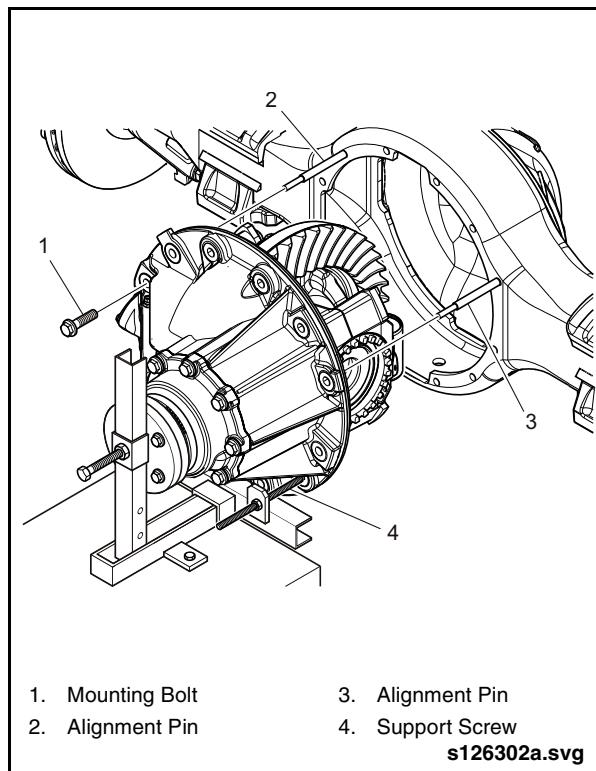

Fig. 2-42: Differential Carrier Removal
2. Remove two opposing mounting bolts and replace with Alignment Pins (Item 78 from Special Tools List). See "Fig. 2-42: Differential Carrier Removal" on page 41.